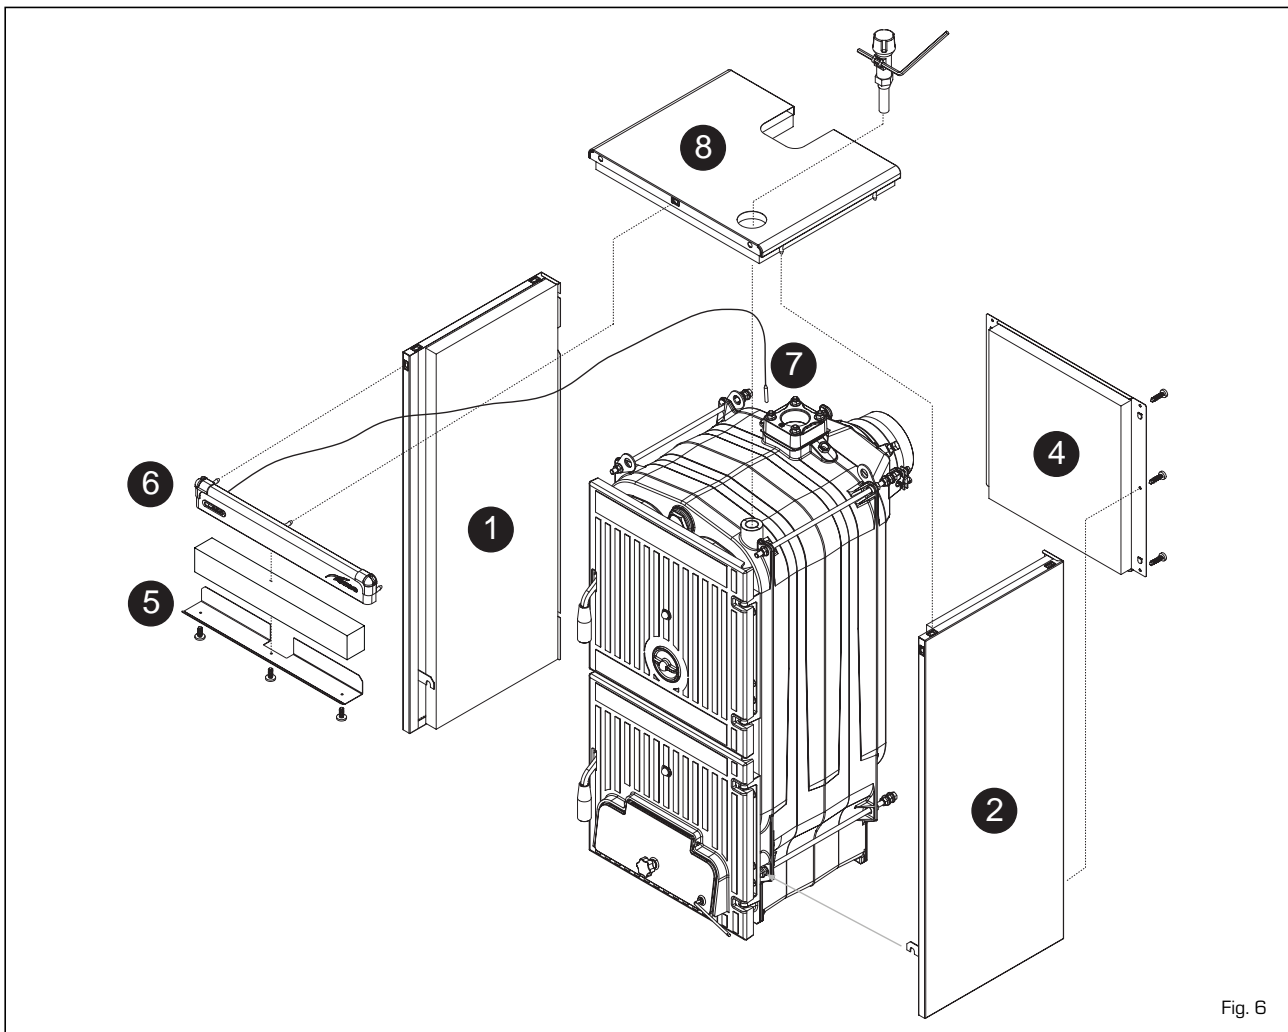

Fig. 6
- Fasten lever M6 (3) to the air gate damper placing it in a horizontal direction on the right. The lever has an opening at its end, where the chainlet of the thermostatic regulator will be connected.
4.5 ASSEMBLING THE CASING (fig. 6)